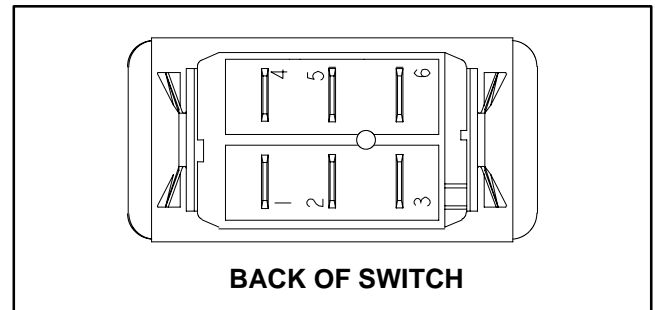

Figure 31
5. With the use of a multimeter (ohms setting), the switch functions may be tested to determine whether continuity exists between the various terminals for each switch position. The switch terminals are marked as shown in Figure 31. The circuitry of the cooling fan switch is shown in the chart below. Verify continuity between switch terminals.